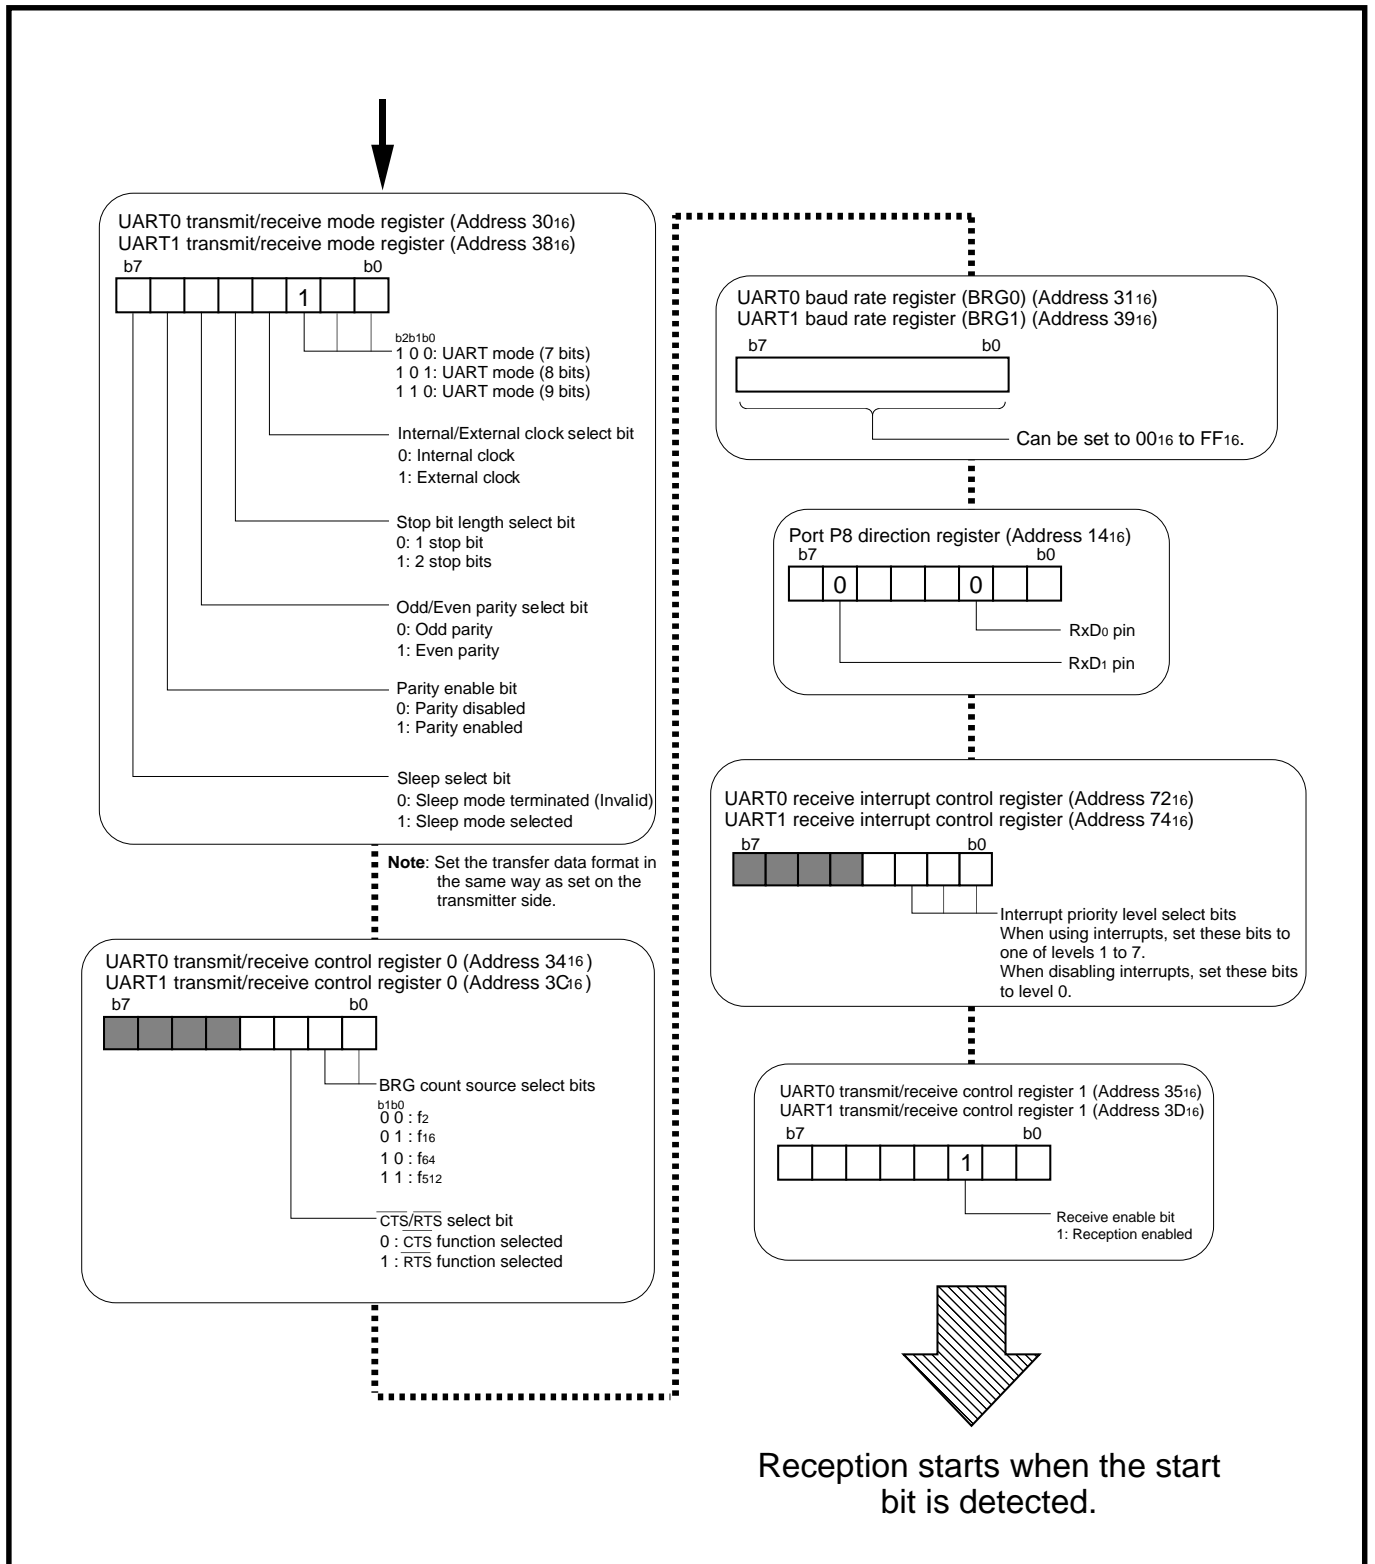

Fig. 11.4.9 Initial setting example for relevant registers when receiving
Figure 11.4.9 shows an initial setting example for relevant registers when receiving. Reception is started when all of the following conditions (① and ②) are satisfied:
- ① Reception is enabled (receive enable bit = "1").
- ② The start bit is detected.